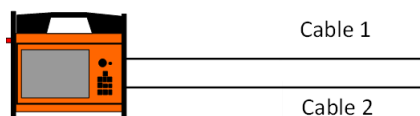

Figure 107 Two cables connected for cable isolation test
1. Electrode cables to be tested should be connected to “Connector 1” or “Connector 2” on the end panel of the instrument. One or two electrode cables can be tested at the same time. If two cables are to be tested (Figure 107), then one cable should be connected to each of the connectors (1 and 2).